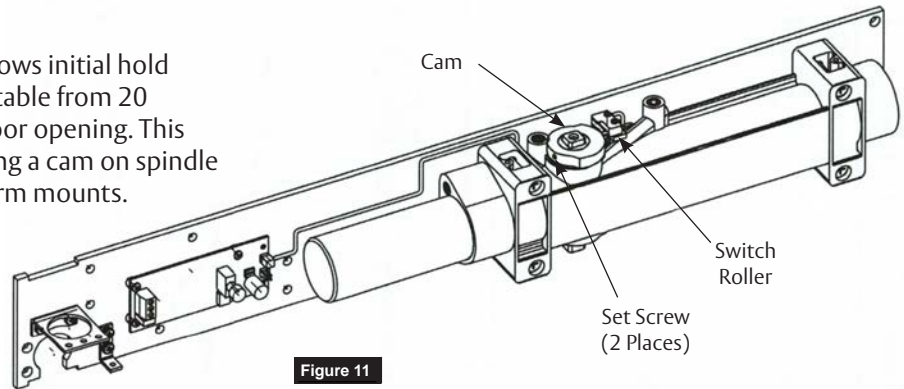

Figure 11
2. Locate switch roller and cam and loosen both set screws in cam. (Figure 11)